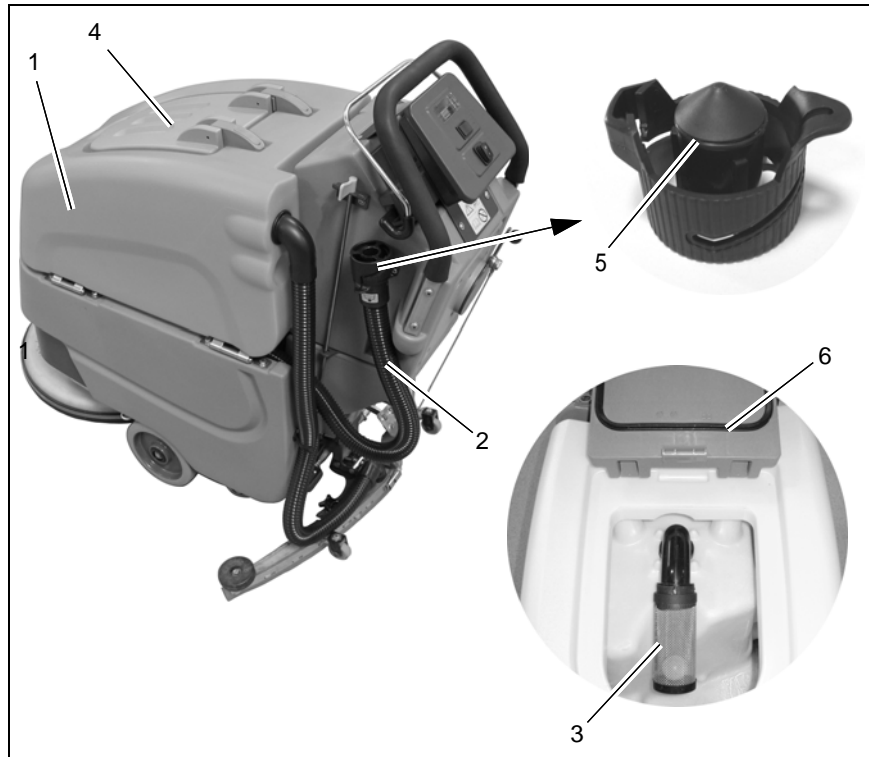

Fig.14
Clean soiled water tank (Fig. 14/1) at daily intervals, as required or upon acoustic signal (increased suction turbine speed).
4. Take drain hose (Fig. 14/2) from holder and empty soiled water tank completely.
Clean soiled water tank (Fig. 14/1) at daily intervals or as required.
2. Open tank lid (Fig. 14/4) of the soiled water tank.
3. Take drain hose (Fig. 14/2) from holder and empty soiled water tank completely.
Check suction filter (Fig. 14/3) for function at daily intervals and clean if required. The suction filter is clipped and can be easily removed.
Check the functionality of the draining valve (Fig. 14/5) daily and change it after 125 operating hours at the latest. Remove the draining hose from the holder. Turn the draining valve 90° and pivot away from the draining hose. Grease the new seal and pin with Molykote.
Check the functionality of the seal in the tank cap (Fig. 14/6) daily and change it after 125 operating hours at the latest.